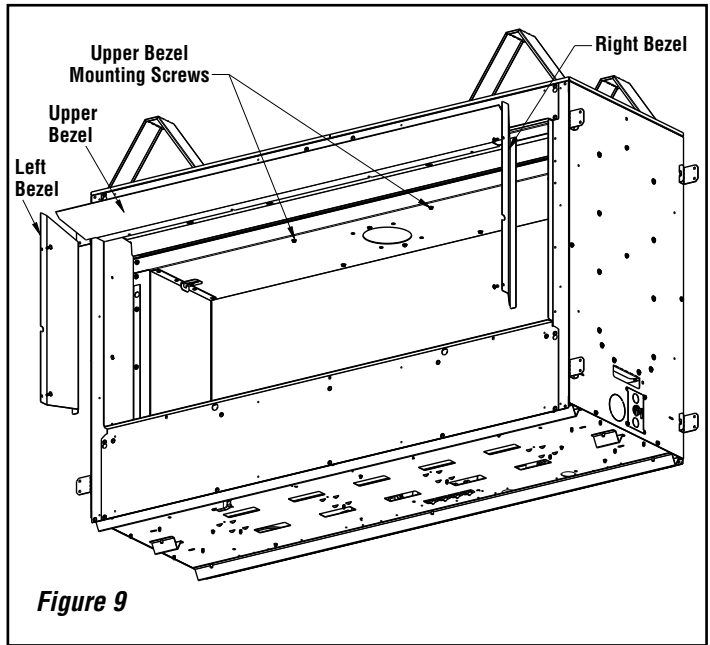
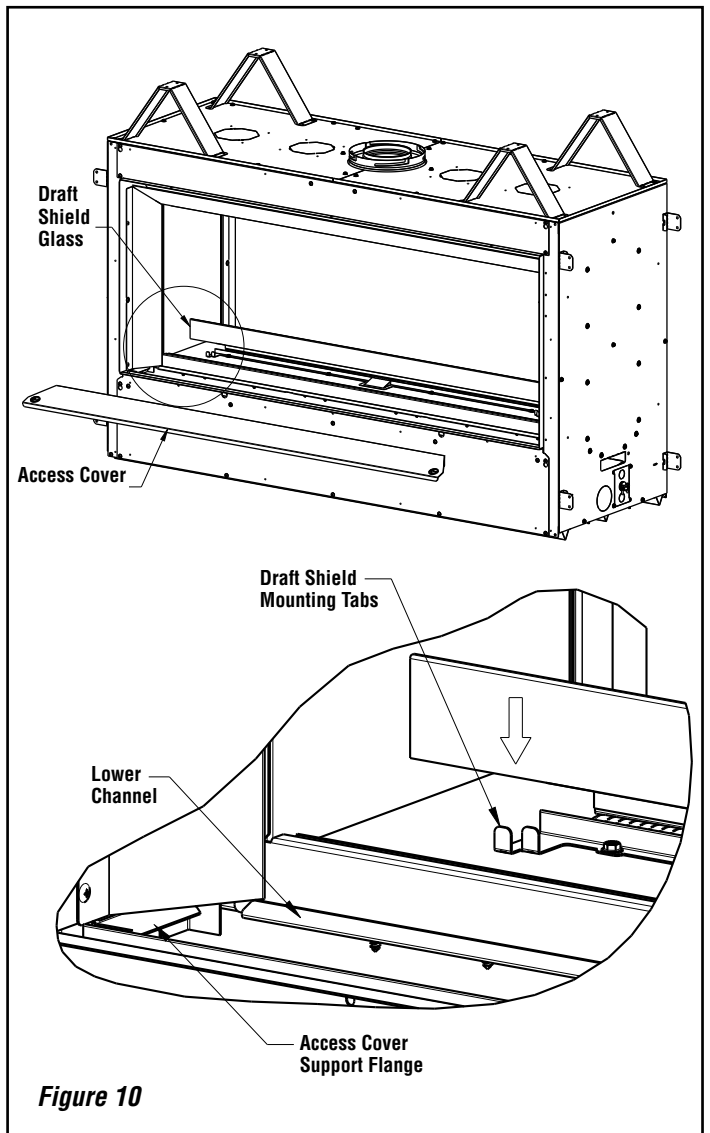

Figure 9
Figure 10
12. Loosen (DO NOT REMOVE) the two (2) hex head upper bezel mounting screws. Slide the two slots on the bezel over the screw heads and tighten. Install the left and right bezel parts onto the tile stops two (2) remaining holes using phillips head screws (see **Figure 9**). **NOTE:** Side bezel parts have a locating tab on the bottom edge that fits into the lower channel on the firebox (see **Figure 10**).
13. Locate the draft shield mounting tabs and bend them upward 90° on both sides. Place draft shield glass, with the polished edge up, into the tabs centered left to right. Glass should fit snugly in a vertical position. Adjust tabs as needed to achieve proper fit (see **Figure 10**).
14. Bend the Access Cover Support Flange just below the side tile stops up 90° on both sides. Place the rear bottom edge of the Access Cover into the firebox lower channel while resting the front on the Support Flanges (see **Figure 10**).